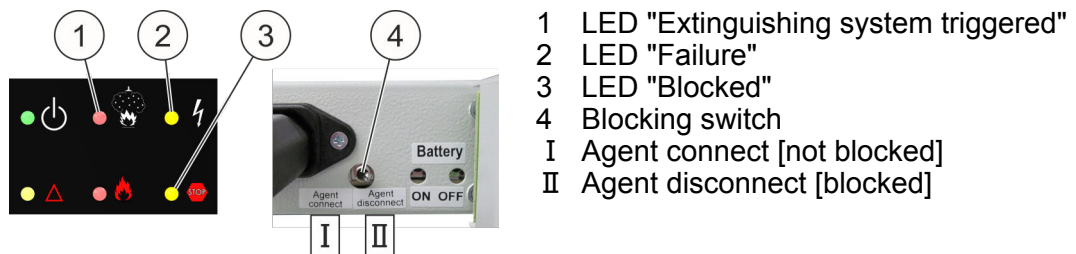

Fig. 59: Blocking
- Block the system prior to a function test. To this end, switch the blocking switch (Fig. 59 /4) to "Agent disconnect [blocked]" (Fig. 59 / II).
- The upper yellow LED (Fig. 59 /2) lights up.
The lower yellow LED (Fig. 59 /3) also lights up if a door fitted with a door contact switch is open.
- Prior to removing the blocking, make sure that the upper red LED (Fig. 59 /1) is **not** illuminated as the extinguishing process will otherwise be initiated immediately.